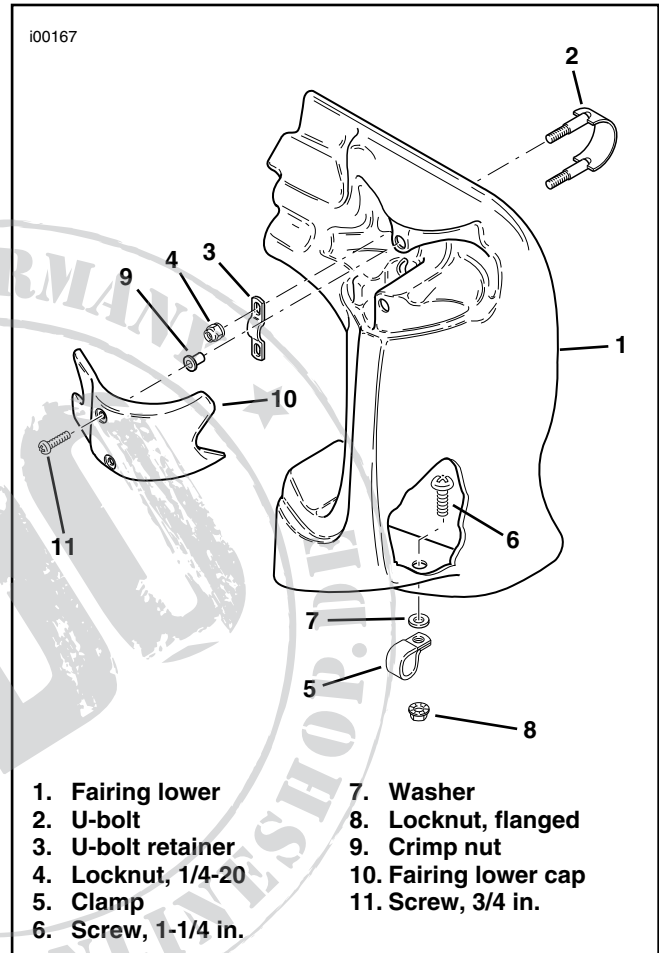

Figure 1. Fairing Lower Assembly - Left View
1. See Figure 1. Place fairing lower (1) in position in engine guard space.
2. From hardware kit obtain U-bolt (2), U-bolt retainer (3) and two 1/4-20 locknuts (4). Clamp fairing lower to top of engine guard with U-bolt from back of lower through holes provided at top of fairing lower. Place retainer in position on U-bolt and secure to engine guard with two locknuts. Tighten locknuts with fingers.
3. Secure bottom of fairing to engine guard with round clamp (5) from hardware kit. Position clamp around engine guard with tabs toward rear of vehicle and flat side of clamp against fairing lower. Place 5/16-18 x 1-1/4 in. screw (6) through fairing lower, rubber washer (7) and clamp (5). Secure assembly with flanged locknut (8). Tighten to 12 ft-lbs (16.3 Nm).
4. Tighten U-bolt nuts (4) to 6 ft-lbs (8.1 Nm).
5. Insert crimp nuts (9) into holes provided above and below engine guard at top of fairing lower. (NOTE: Some fairing lowers may already have crimp nuts in place.)